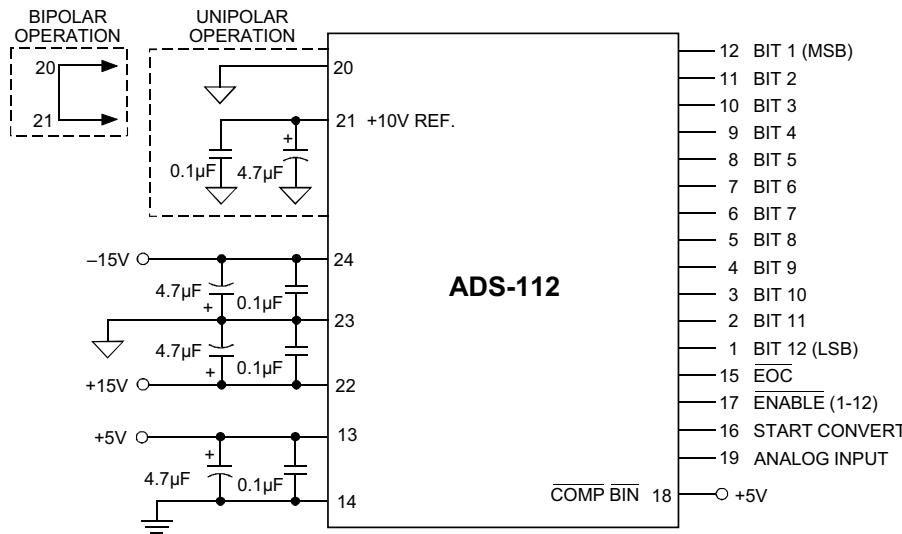

Figure 3.Typical ADS-112 Connection Diagram
1. Applications which are unaffected by endpoint errors or remove them through software will use the typical connections shown in Figure 3. Remove system errors or adjust the small initial errors of the ADS-112 to zero using the optional external circuitry shown in Figure 4. The external adjustment circuit has no effect on the throughput rate.
1. Connect the converter per Figures 3 and 4 and Tables 1 and 3 for the appropriate input range. Apply a pulse of 150 nanoseconds to the START CONVERT input (pin 16) at a rate of 250kHz. This rate is chosen to reduce the flicker if LED's are used on the outputs for calibration purposes.